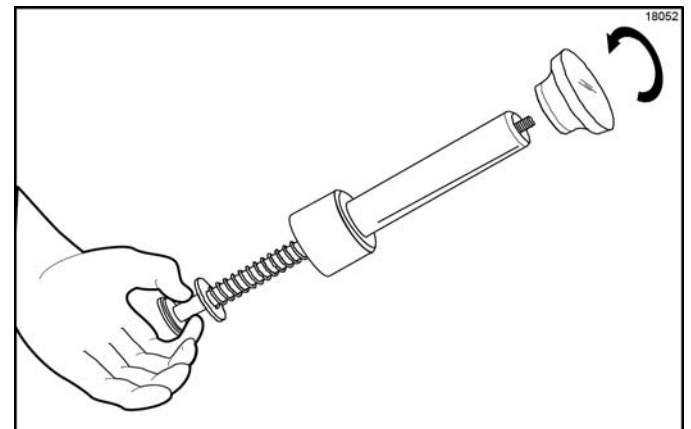

Figure 6-93
4. To remove the knob, compress the spring toward the knob, using the washer. Compress it enough to grab onto the plunger with your hand for support. Begin removing the knob with your other hand. Remove the knob O-ring. Remove the plunger nut from the plunger tube. (See Figure 6-93.)